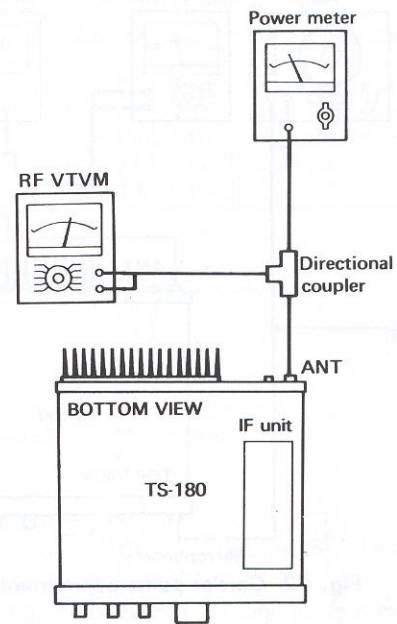

Fig. 41 Carrier Suppression Adjustment
- 1) Connect as shown in Fig. 41 and adjust at 14,200 MHz CW for full power.